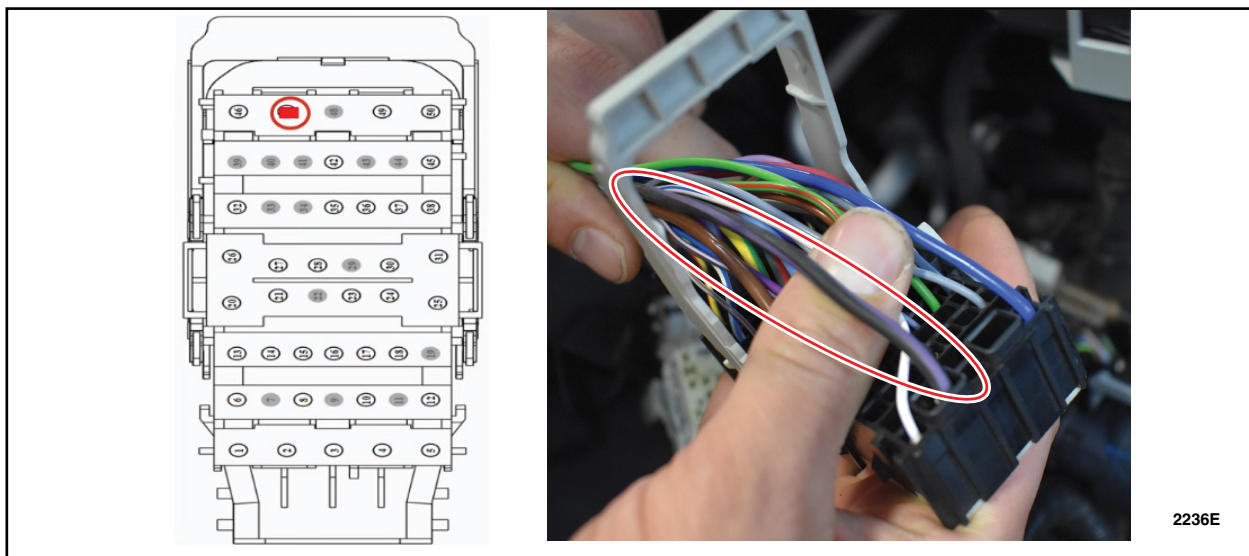

FIGURE 18
20. In connector C1035B identify cavity 47 which contains a black-violet wire. See Figure 18.